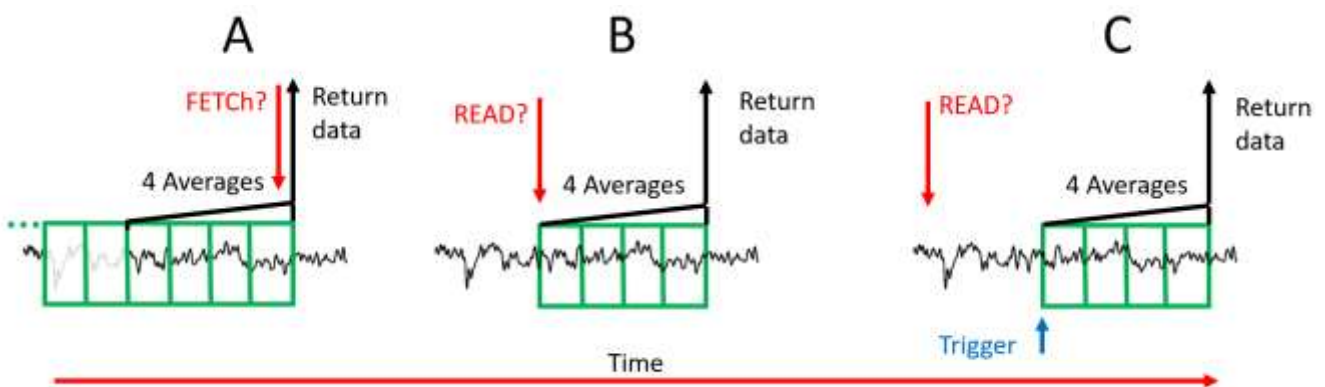

Figure 1 - Measurement Pictograms
- Measurement start point timing (Review in Figure 1)
- Free run mode with FETCH?, returns the power level that occurred right before the measurement (A). This is often used when continuous measurements are being made. The measurement is returned immediately, and consists of the most recent number of averages from a circular buffer.
- Start a measurement and return data after the measurement is complete using READ? (B). This is often used programmatically, for example a source is set, allowed to become stable, and then the measurement is started.
- When even greater starting point accuracy is required, READ? With external triggering can be utilized (C). After the measurement is initialized, the sensor begins waiting for a trigger to occur, when the trigger occurs the measurement is processed. See the Triggering section for additional details.